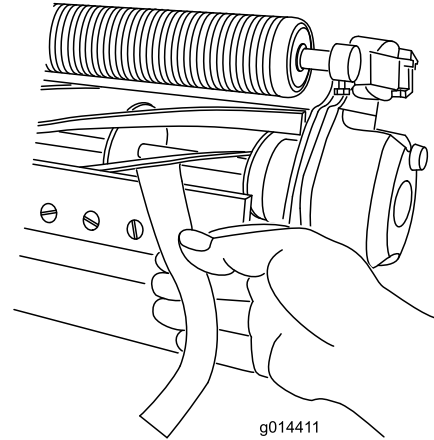

Figure 10
11. Test the cutting performance by inserting a long strip of cutting performance paper between the reel and bedknife, perpendicular to the reel and bedknife (Figure 10). Slowly rotate the reel forward to cut the paper.